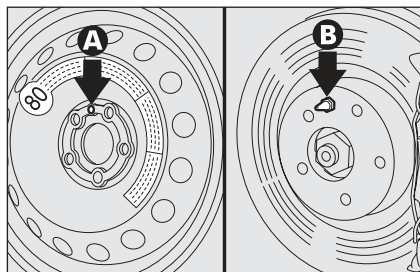

fig. 10
- ☐ fit the space-saver spare wheel making one of the holes **A-fig. 10** coincide with the relevant pin **B**;
- ☐ Fit the standard wheel taking into account that pin **B-fig. 10** shall coincide with one of the holes **A**;